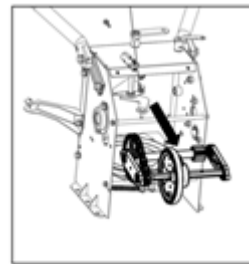

Fig. 26
4. Pull out the hexagon shaft and remove the gear shaft. See Figure 26.